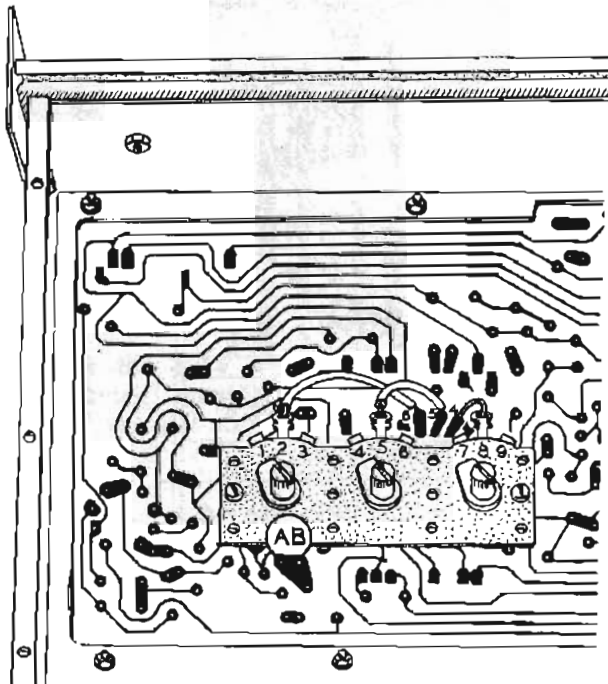

Figure 18
- ( ) Install another triple 250 KΩ control AB. See Figure 18.